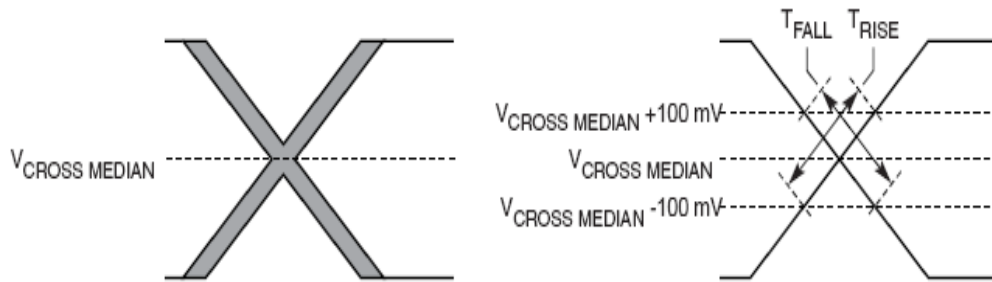

Figure 48. Single-Ended Measurement Points for Rise and Fall Time Matching
- Matching applies to rising edge for $\overline{SDn_REF_CLK}$ and falling edge rate for $\overline{SDn_REF_CLK}$. It is measured using a 200 mV window centered on the median cross point where $\overline{SDn_REF_CLK}$ rising meets $\overline{SDn_REF_CLK}$ falling. The median cross point is used to calculate the voltage thresholds that the oscilloscope uses for the edge rate calculations. The rise edge rate of $\overline{SDn_REF_CLK}$ should be compared to the fall edge rate of $\overline{SDn_REF_CLK}$, the maximum allowed difference should not exceed 20% of the slowest edge rate. See Figure 48.